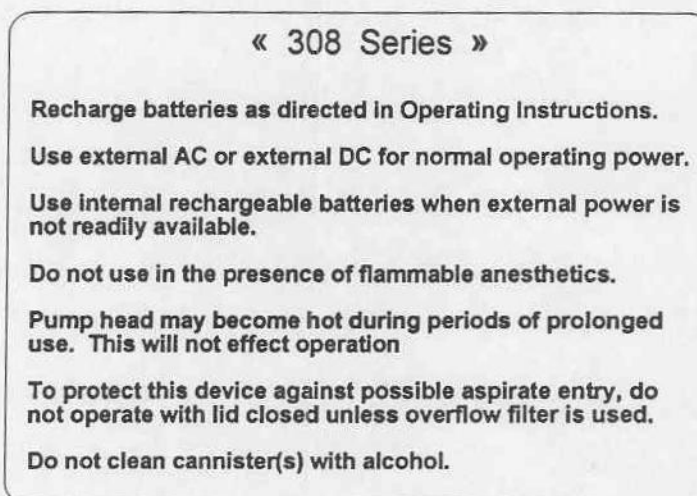

Figure 1-12. Operating information stencil.
(3) Operating information (located on the control panel) is depicted in figure 1-12.